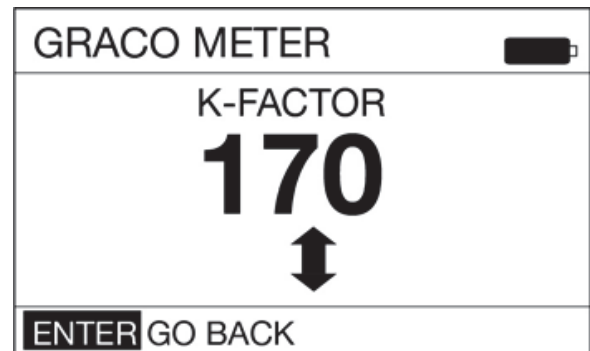

FIG. 29
9. Use the UP and DOWN ARROW to increase or decrease the displayed k-factor (FIG. 29) until the new k-factor displays on the screen.